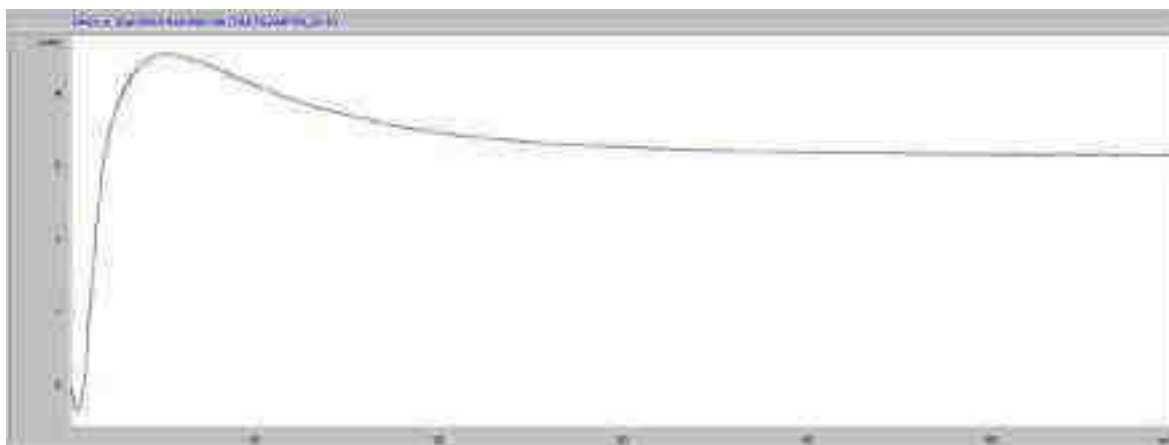

Figure 10 Stabilization of Baseline (both lamps turned on at the same time)
- 6 Allow the detector to warm up of at least 60 minutes to provide a stable baseline (see example in Figure 10 and Table 8).
Table 8 Baseline drift after lamp turn on (example from Figure 10)